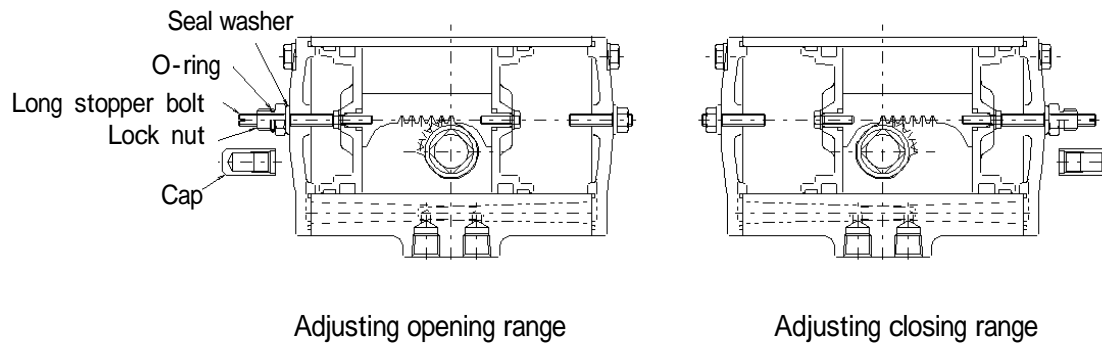

Fig.3
3.1 By use of an optional longer stopper bolt as a kit, the valve opening range can be adjusted within a range of -7° to 97° . The kit shall be mounted on the left hand end cover for adjustment of the opening range, while it shall be mounted reversely for adjustment of the closing range (**Fig.3**). Follow the working instructions provided below.